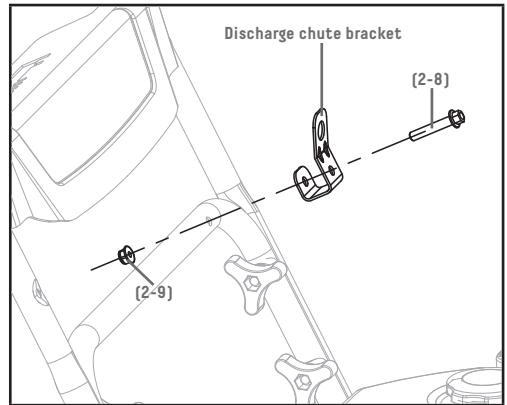

Figure 5
3. Connect discharge chute guide to lower handle with 1 bolt (2-8), and 1 lock nut (2-9) (Fig. 5).